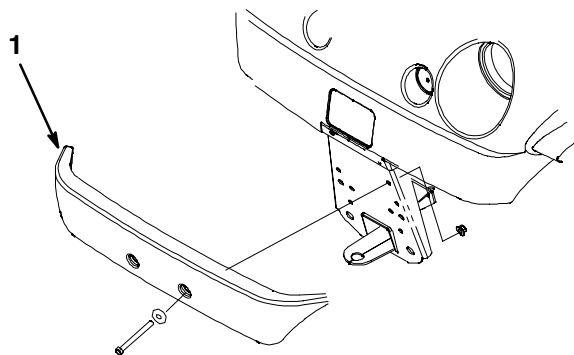

Figure 5
- Remove the (2) capscrews, washers and nuts secured to the front of the frame.
- Align the mounting holes and secure the bumper to the frame with the fasteners previously removed (Fig. 5).